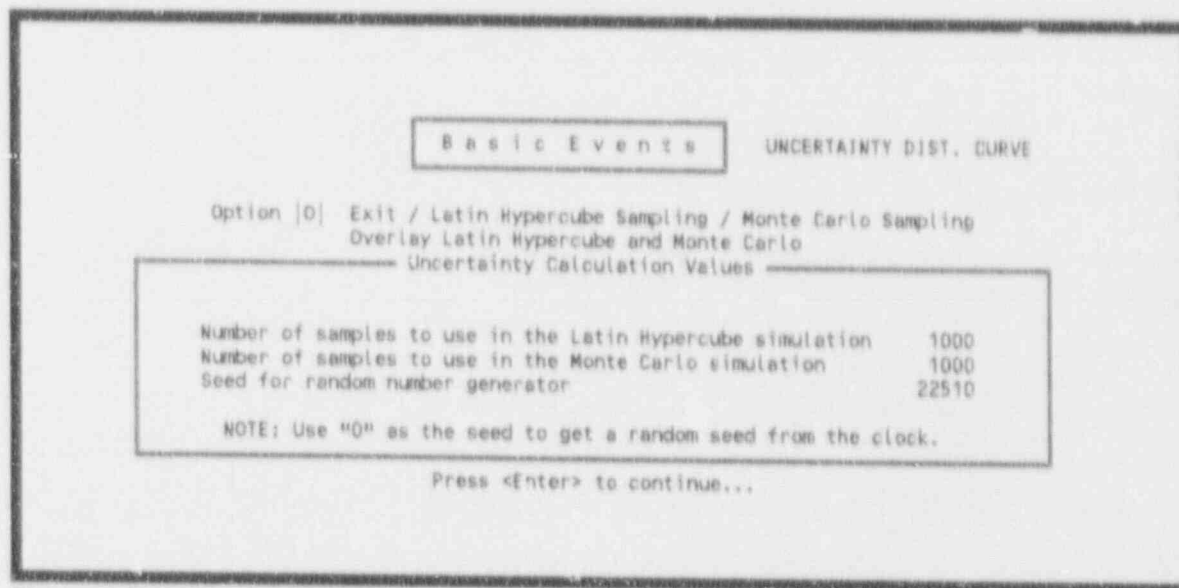
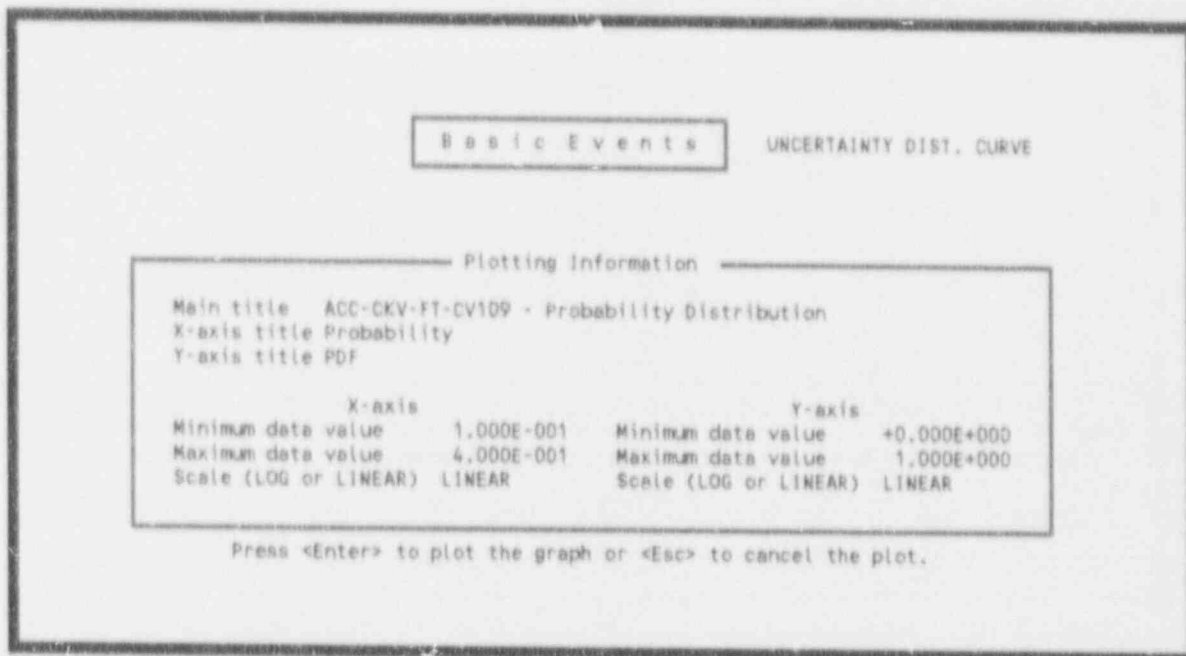

Figure 131. Overlay calculation sampling values.
Figure 132. Overlay plotting information.
**5.5.2.3 Overlay Latin Hypercube and Monte Carlo.** This option plots an uncertainty distribution curve using both Latin Hypercube and Monte Carlo samplings. The curves will overlay one another on the plot. To invoke this option, enter an <O> in the option field, highlight the desired event, and press <Enter>. Figure 131 will be displayed. This screen prompts you to enter the number of samples to be generated during simulation and the initial value of the seed for the random number generator for both the Latin Hypercube and Monte Carlo simulations. A default seed value for the random seed will be provided. You may use this value or enter a new value for the seed. To obtain a random seed from the system clock, enter a zero in this field. There will also be a default value for the number of samples. You may use this value or enter another value. When values have been entered, press <Enter>. The samples will be calculated and when complete, Figure 132 will be displayed. The screen shows the plot information that will be used to plot the uncertainty distribution curves. You can change any of the values displayed. When complete, press <Enter>. The plot will be generated and displayed on the screen.